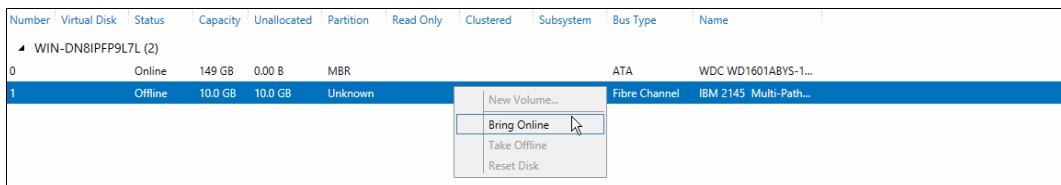

Figure 5-32 Bring a disk online
- You need to bring the disk online. To do this, right-click and select **Bring Online**, as shown in Figure 5-32.